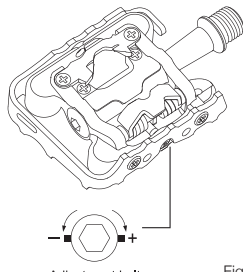

Figure 7
The tension of the spring is adjusted for each pedal (top and bottom) with the adjustment bolt in the rear. Turn the 3mm bolt in a clockwise direction to increase retention force, and in a counterclockwise direction to decrease retention force. (Fig. 7)
- Adjust the retention force of the pedal to a light setting initially until you are accustomed to getting in and out of the pedal (Fig. 7)